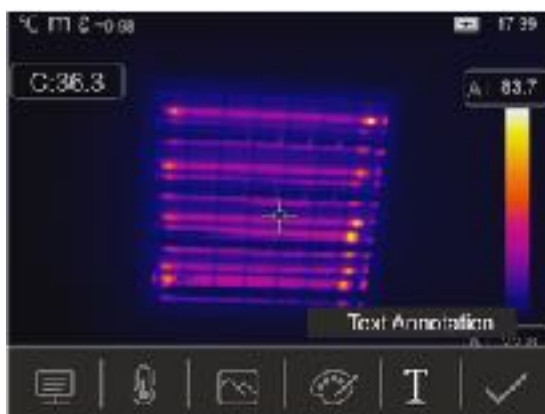

Fig. 45: Adding a text annotation to the image
4. Touch the icon “**T**” to add a text annotation to the image. The screen in Fig. 45 – right side appears on the display.